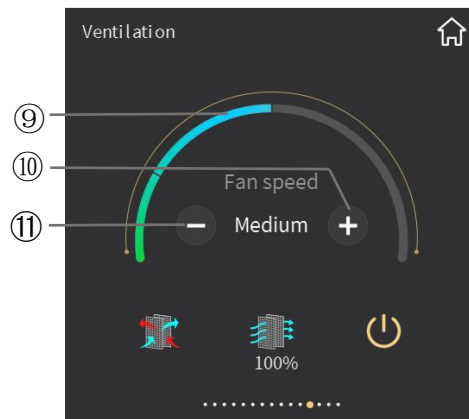

Fig.2.6.4
- ⑨ This ring bar displays specific fan speed level;
- ⑩ To increase fan speed level by touching this icon ;
- ⑪ To decrease fan speed level by touching this icon.
When fan speed is not configured as auto, as shown in Fig.2.6.4, by touching icon⑩ and icon⑪ to adjust fan speed; for each touch of icon⑩ and icon⑪ to adjust one level, there are 3 modes of fan speed: Low, Medium and High. At this time, the adjustment is manually, not automatically according to the concentration of CO2 or PM2.5.